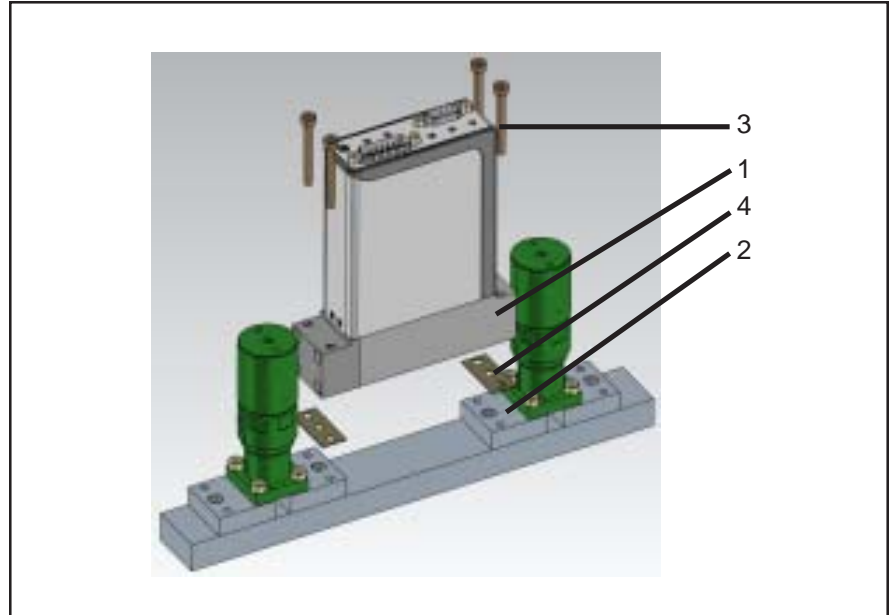

Figure 2-2 GF80 Series Mounted to K1 Series Substrate Blocks
1. Refer to Figure 2-2. If downported fittings (1) are used, the GF80 Series is mounted to K1 Series substrate blocks (2) with four screws (3). Metal C-seals (4) (as provided by integrator) are inserted between the GF80 Series and substrate blocks before the screws are installed. These metal seals must be replaced after each installation.
3. Refer to Figure 2-2. Insert the two mounting seals (4) over the gas flow path of the K1 block. Carefully align the GF80 Series mounting holes onto the K1 substrate blocks. Using your fingers, install the screws through the GF80 Series fitting and hand tighten.